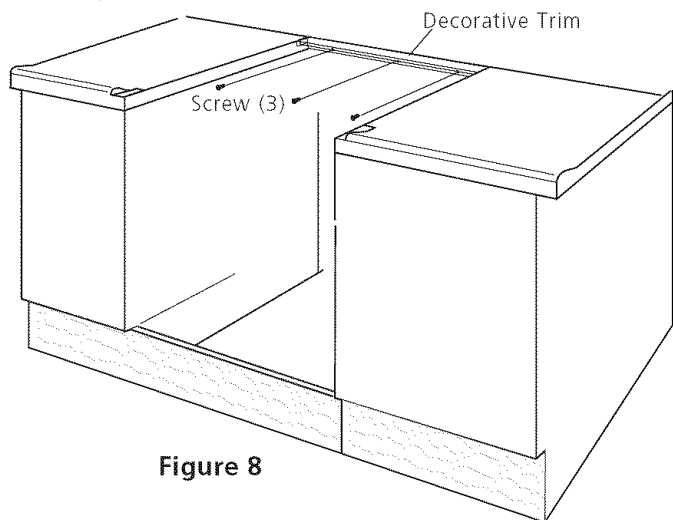

Figure 8
4. Align the top of the decorative trim with the countertop (Figure 8).